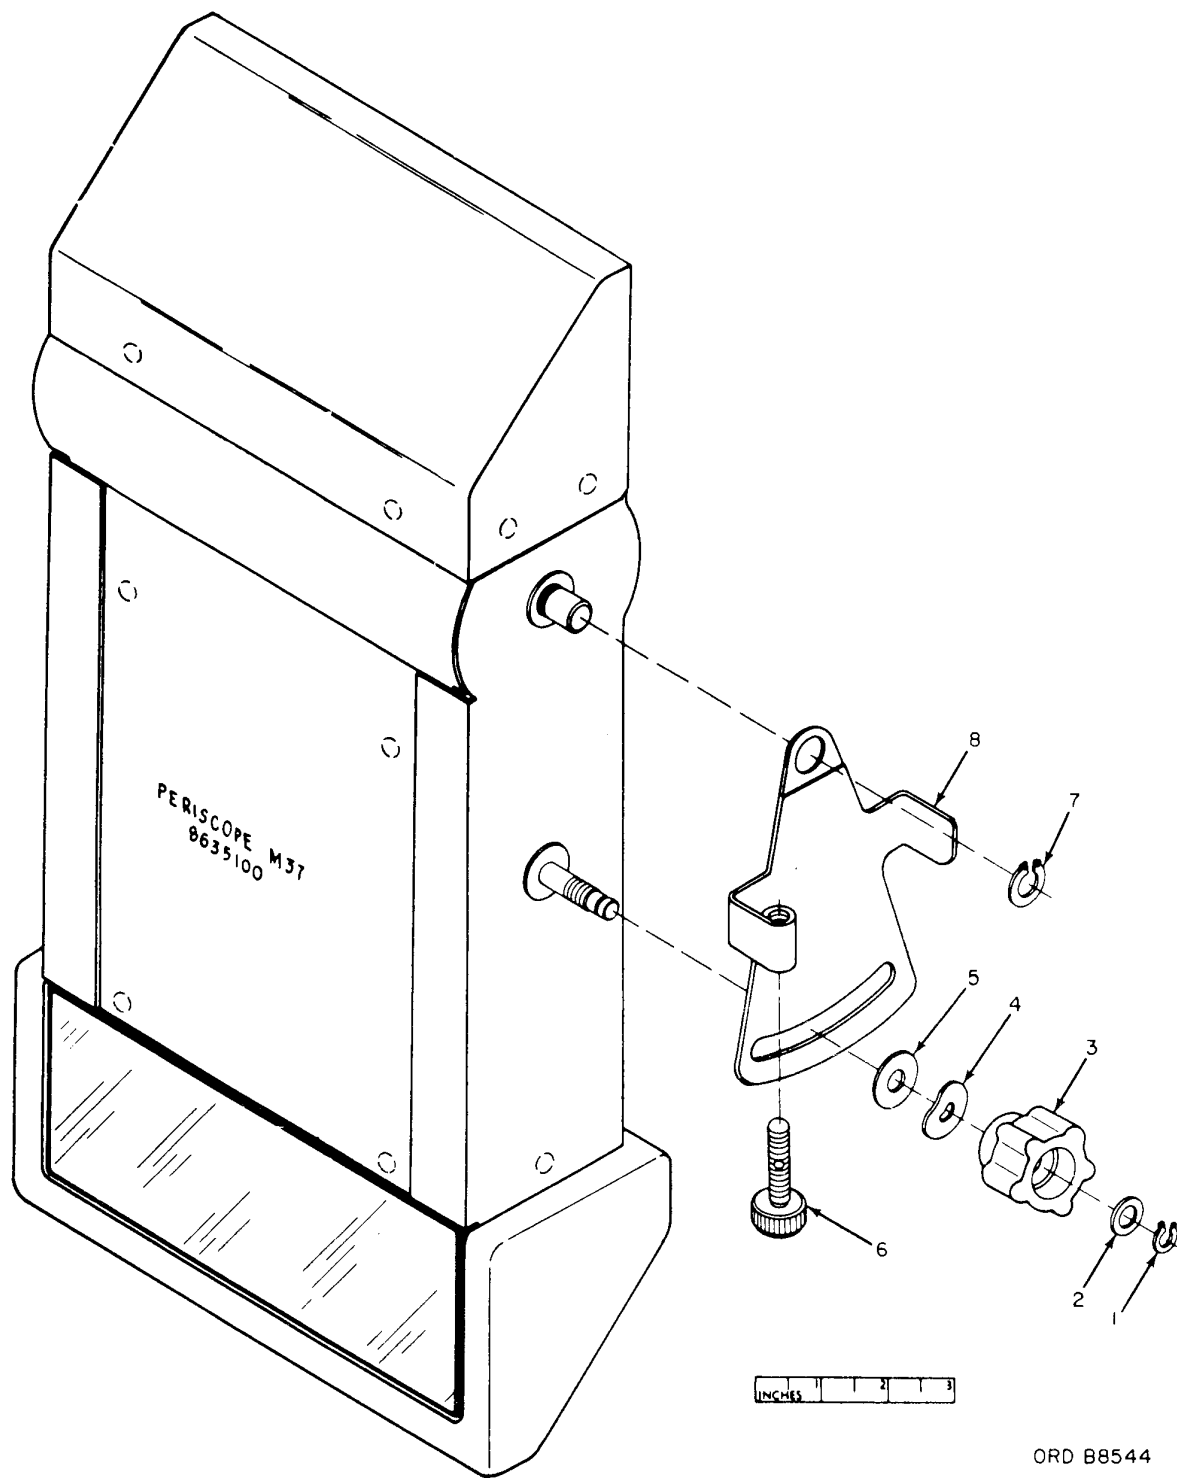

Figure 2 Periscope M37 - partial exploded view
b. A segment attached on the right side of the housing (fig. 2) is secured by a knob. Loosening the knob permits the periscope to be tilted in elevation or depression. Two windows and two mirrors are bonded to the plastic body. A housing containing the body has a crash pad secured to the lower end.
When component parts (fig. 2) do not operate properly, are missing, or broken they shall be replaced. Optical component parts are not authorized for replacement, repair, or overhaul.
Periscope M37 (fig. 2) will require a minimum of disassembly and assembly.
Note: The key numbers shown below in parentheses refer to figure 2.